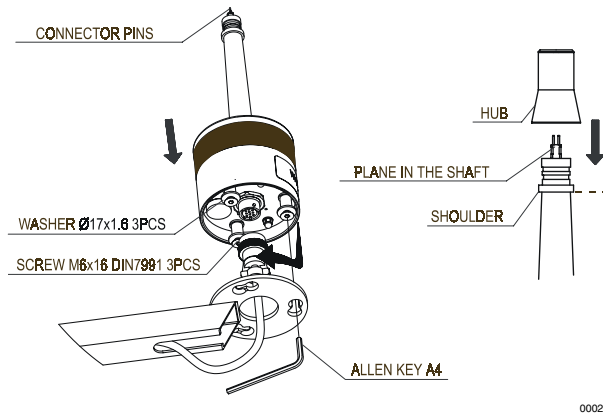

Figure 1. Mounting of the Wind Sensor and the Hub
4. Finally, mount the cup assembly. Align the planes in the shaft and inside the hub. The bottom edges of the hub and the shoulder should reach approximately the same level (see Figure 1). Tighten the set screw.